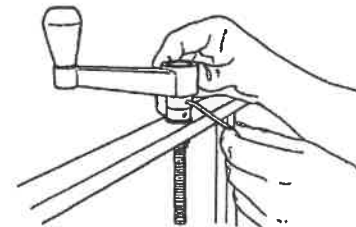

Fig. A-10
20. Place the crank on the slide screw (17).
21. Use a 3/32" Allen wrench to securely tighten the crank's setscrew (31) on the flat portion of the slide screw (17). See Fig. A-10.